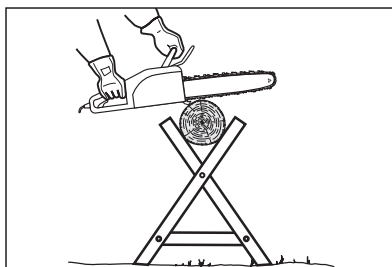

Fig. 12e
5. Support small logs on a sawing stand or another log while bucking (Fig. 12e).